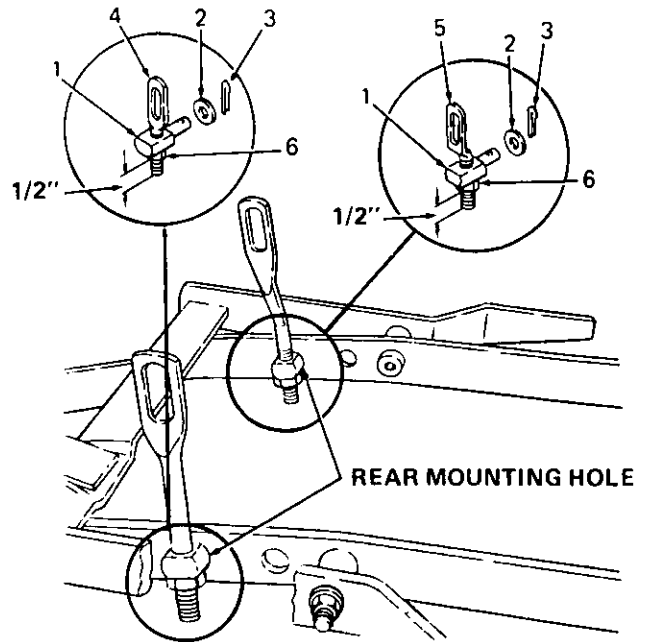

Figure 4
2. Place adjustable lift link and offset adjustable lift link in a ferrule and secure each lift link with a hex center lock nut until 1/2 inch of threads are visible at bottom of each lift link. Refer to Figure 4.
3. Install ferrule with adjustable lift link to right side of lift frame (in rear mounting hole as shown) with lift link on outside of frame. Refer to Figure 4.
4. Install ferrule with offset adjustable lift link to left side of lift frame (in rear mounting hole as shown) with lift link on inside of frame. Refer to Figure 4.
When installing the offset adjustable lift link to the rockshaft lift arms, refer to Figures 4 or 6 and note proper positioning of lift link.